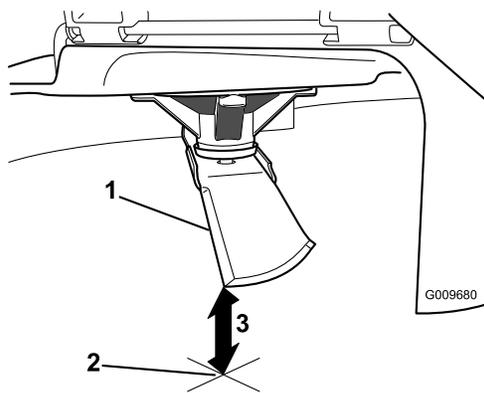

**Figure 47**
4. Rotate the same blade 180 degrees, so that the opposing cutting edge is now in the same position (Figure 47).